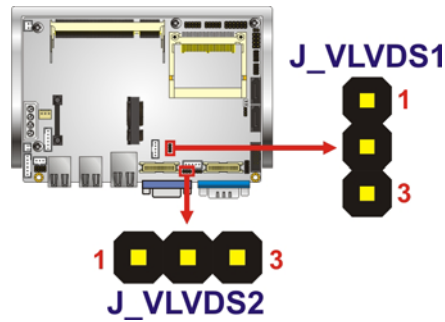

Figure 4-9: LVDS1 Voltage Selection Jumper Pinout Locations
- Jumper Location:** See Figure 4-9
The LVDS1 Voltage Selection jumper location. is shown in **Figure 4-9**.
The LVDS2 Voltage Selection jumper location. is shown in **Figure 4-9**.